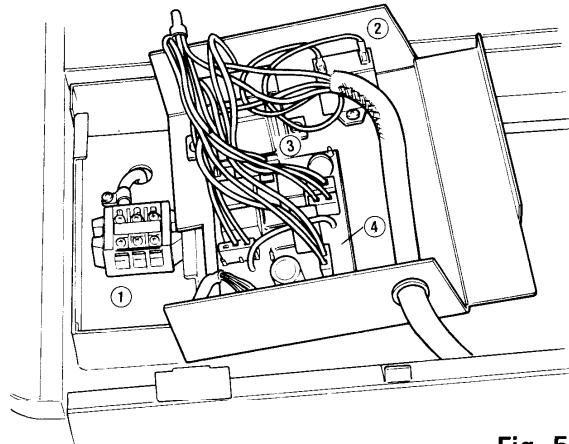

Fig. 5
- 6) The electrical components in the electrical component box all can be checked in this condition. Fig. 5